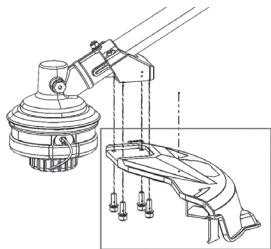

Fig. 1A
1. Remove 4 x M5 screws with appropriate hex key. (Fig. 1A)